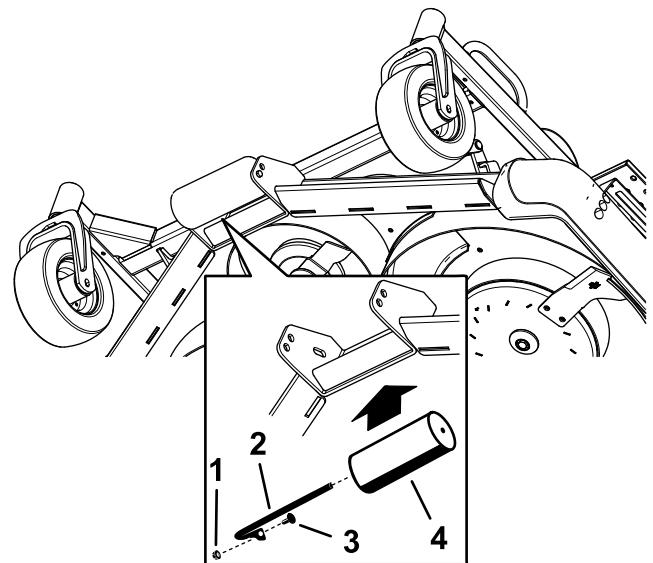

Figure 31
5. Align the roller with the appropriate holes and install the shaft with the bolt and nut (Figure 31).